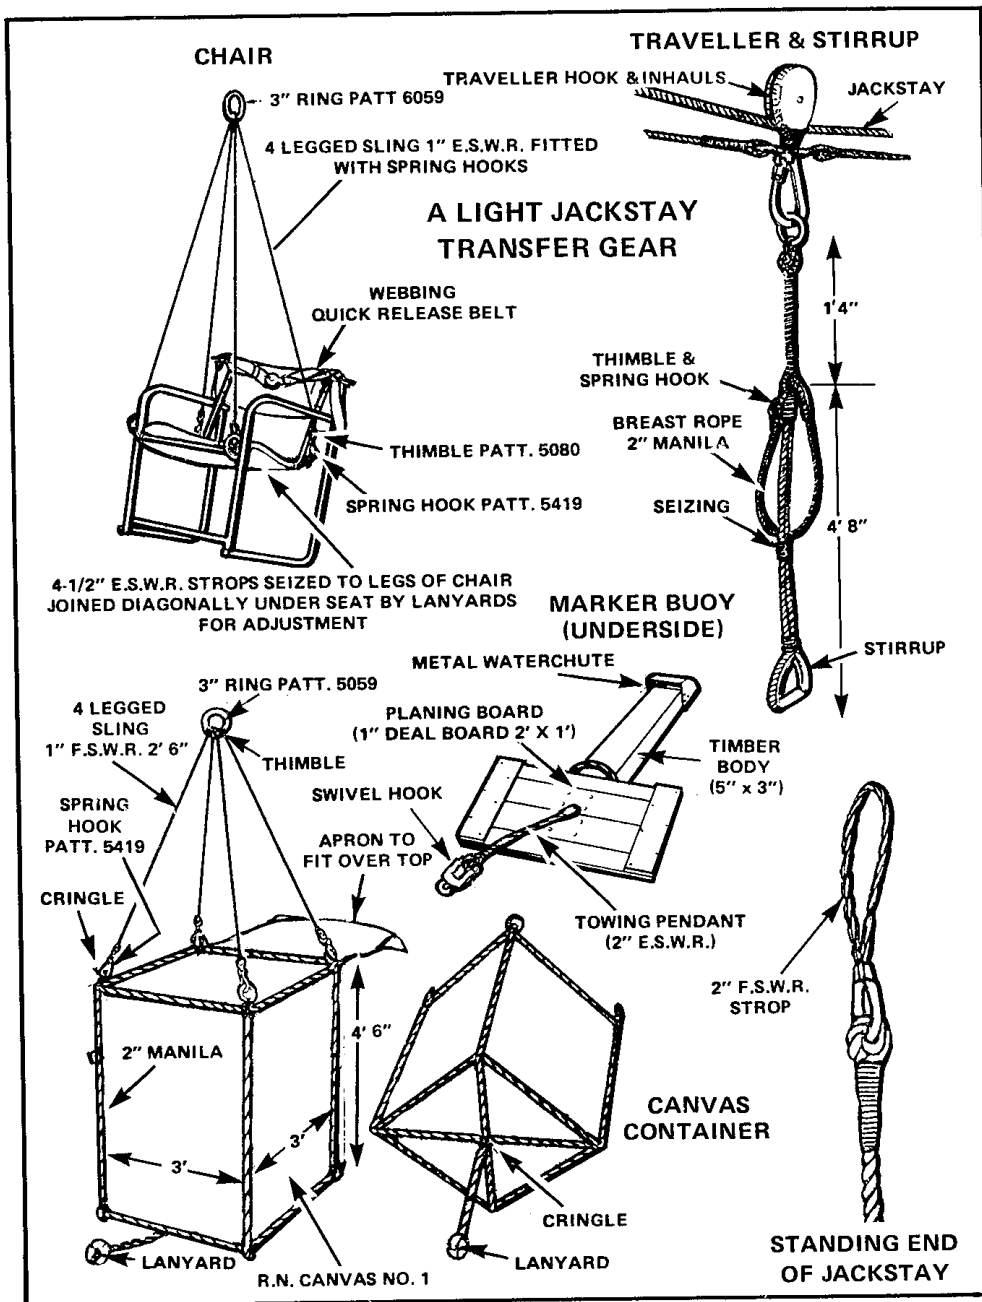

Figure 4-82 A Light Jackstay
54. **Maximum Load** — Applying this rule to the rig illustrated in Figure 4-82, the maximum load which can be transferred by this rig is 500 lb and then only if the gear is in first class condition.
- a. Initial contact between ships is by either a bolo line or gun-line. See Figure 4-82. The supplying ship will normally provide this except when the receiving ship is an aircraft carrier, or a DDH with the helicopter on deck. However, the receiving ship should have gun or bolo lines ready.